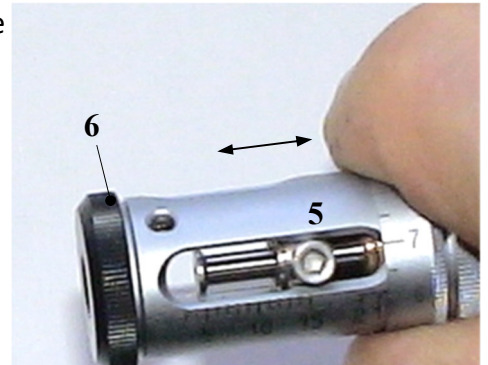

Fig. 15 Settle blades
- Set the diameter setting (4) to a diameter of **0 mm**.
- Slowly push the stripping head (5) back and forth. (Fig. 15)
- Pull the stripping head (5) backwards as far as it will go and, holding this position, tighten the end cap (6). (Fig. 15)